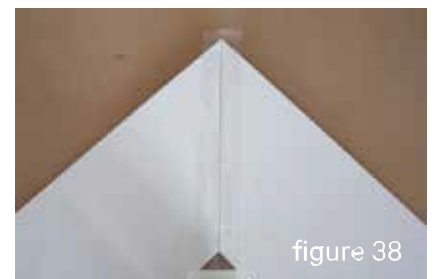

figure 38
2. Dry fit 45° butt joint and apply a strip of Tenacious Tape along the joint, on the top of Lightblocks backing. Remove tape from joint with a sharp blade (see figure 38 | 39 | 40).